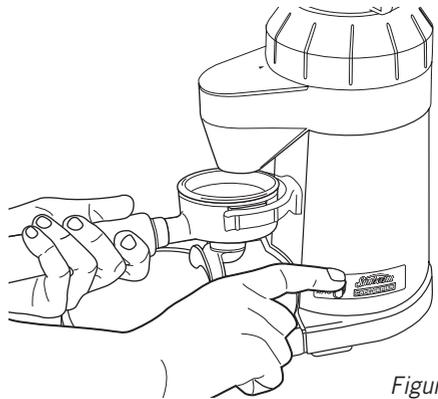

Figure 6
11. Flip the switch to the 'Auto' position, see figure 6.